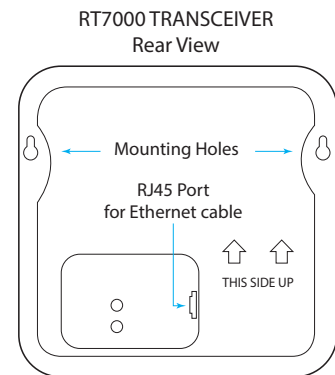
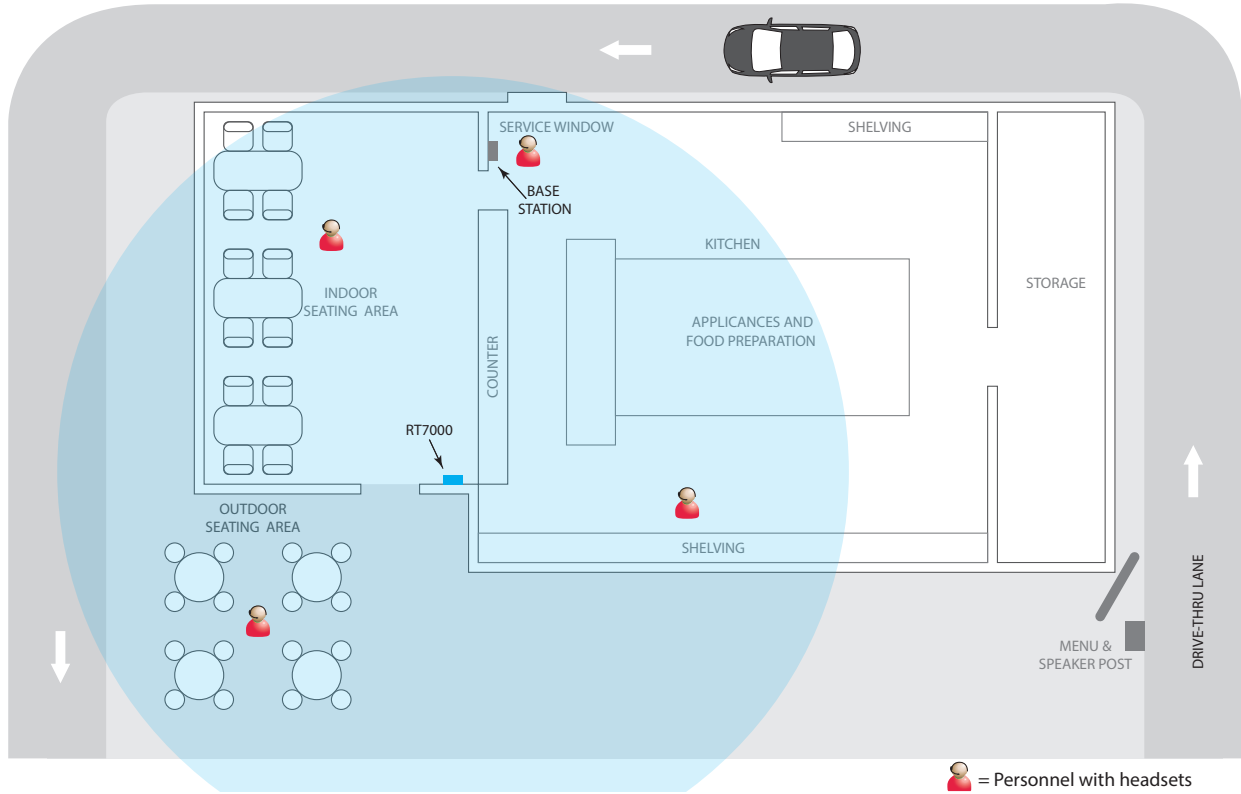

Fig. 2.4
Fig. 2.10
- Finding a good location for the remote transceiver is critical (see Fig. 2.10, and 2.11). Also read about the “Remote Transceiver (RT7000)” on page 14 under Component Notes and review the Critical Steps in these following instructions.
4. Mount the power supply. Mark the mounting location on the wall through the mounting holes on each side. Mount the power supply using the hardware provided. Terminate the power supply to the Base Station (see "Wiring Diagram's" Fig. 2.10, 2.11 and wiring connections on page 5).
5. **Critical Step:** Loosely mount and connect the RT7000 (Fig. 2.4 & 2.5) in a central location for optimal coverage (until range tested in steps 9 & 10 with the Installation Wizard). For example, notice Fig. 2.10 and 2.11. They show two different store layouts with specific targeted areas where the headsets are primarily used. In these examples, the location selected for the RT7000 (represented by the small blue rectangle) offered the best coverage indicated by the blue circled areas. Each store required the RT7000 to be mounted in a different but central location to provide the best all-around coverage unique to the store's need. Store layout and obstructions also affected placement and range. (see "Component Notes" on page 14 for more details on the RT7000 placement).